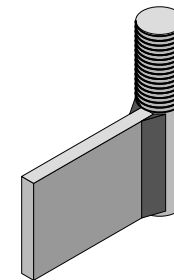
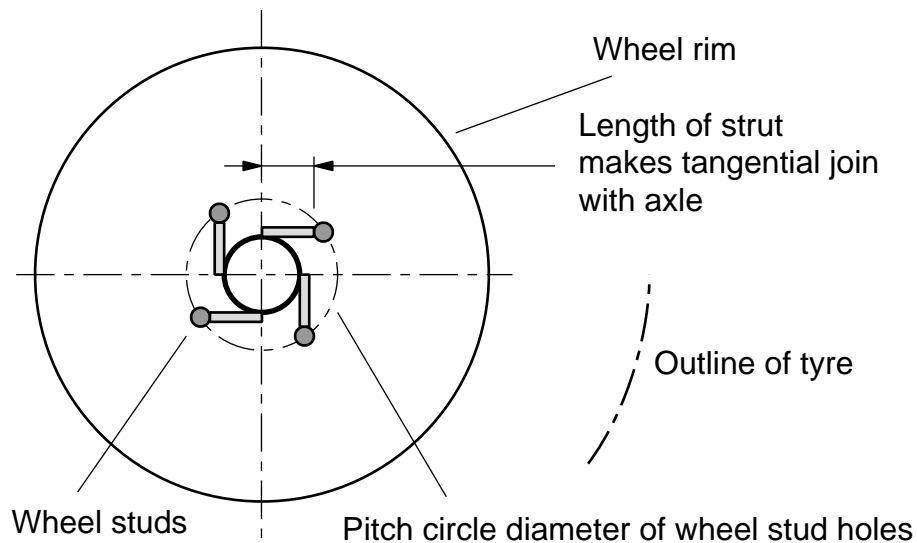

Figure 5: a welded wheel stud and strut fabrication.
Figure 6: length of wheel strut.
- 4) Next make the wheel stud struts shown in Figure 5. You need to make one of these struts for every stud hole in the wheels you are going to use. Figure 6 shows how to measure the length of the struts. The struts are made from 6x40 flat bar or similar and M12 bolts 50mm or 60mm long. The flat bar should be long enough so that it meets the axle tube tangentially as shown in Figure 6.
through the hole in the rim and screw another nut onto the thread. Tighten this nut lightly with a spanner. Repeat for all the struts so that they all point the same way round the axle, as in Figure 6, and leave a gap for the axle.